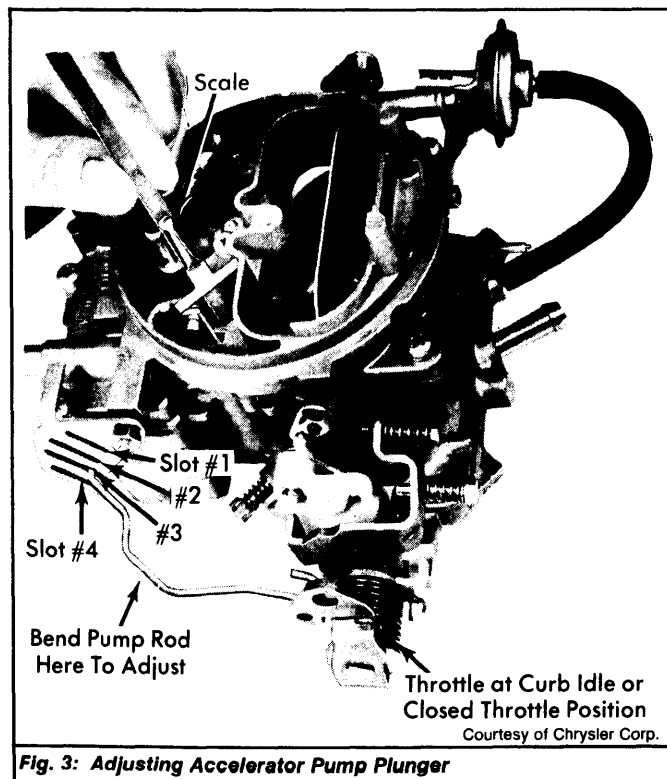

Fig. 3: Adjusting Accelerator Pump Plunger
1) Place throttle lever in curb idle position. Ensure accelerator pump rod is in No. 1 slot in throttle lever. See Fig. 3.